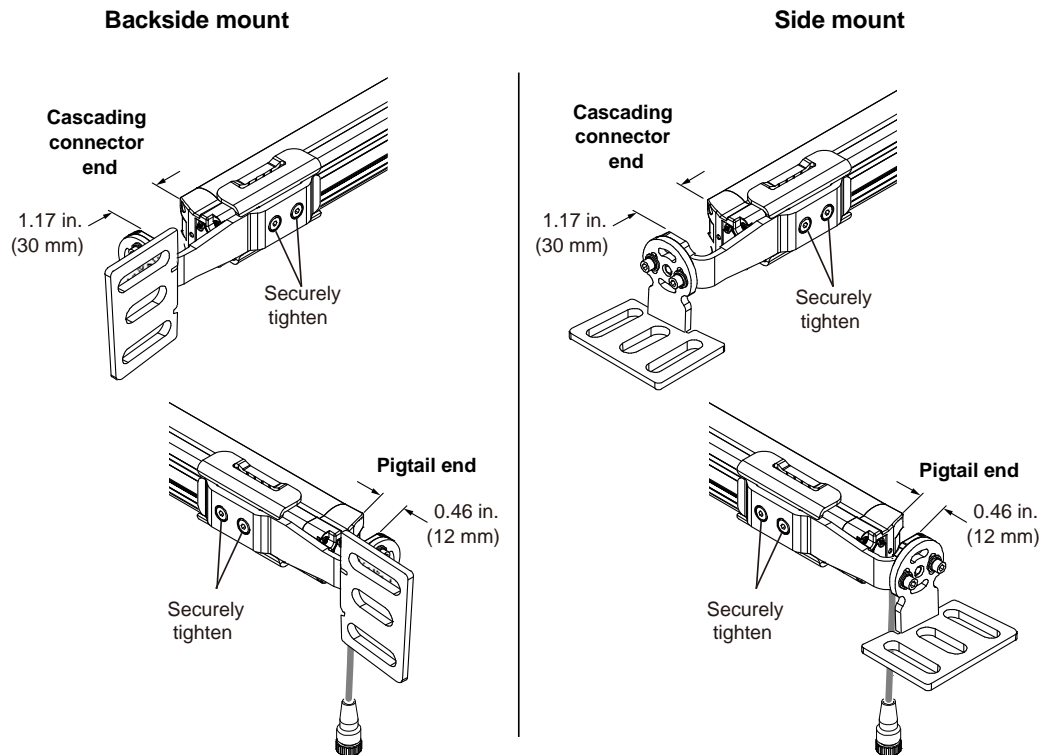

Figure 2-15. Bracket Clearances
2. Slide the standard bracket onto the optic head. Leave the clearances shown in Figure 2-15, *above*: 0.46 in. (12 mm) on the pigtail end and 1.17 in. (30 mm) on the opposite end.